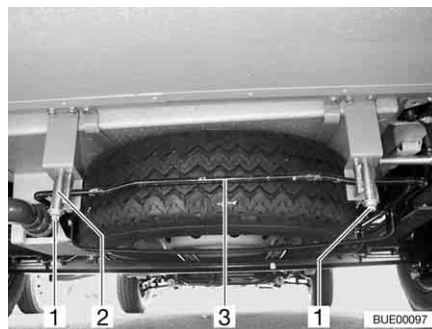

Fig. 280 Spare wheel support (basket)
- Loosen the nuts (Fig. 280,1) on the right and left rear hooks (Fig. 280,2) of the spare wheel support.
- Pull the bar (Fig. 280,3) slightly upwards. At the same time, pull down the hooks and unhook the bar.